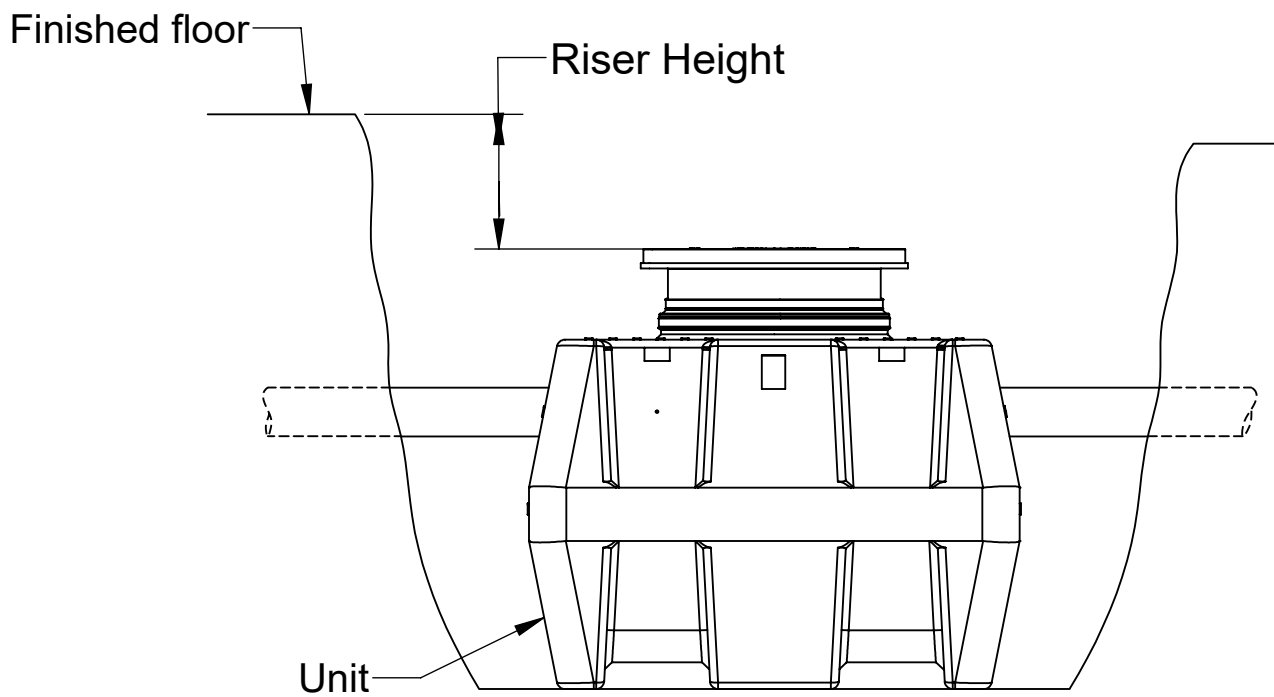

Figure 1
2. If the unit is to be buried: Once the unit is set so that the pipe connections line up with the jobsite piping, measure the total riser height needed from the top of the cover to finished grade. Make sure you include any future tile work, etc. that may be installed in your finished grade measurements. See figure 1.